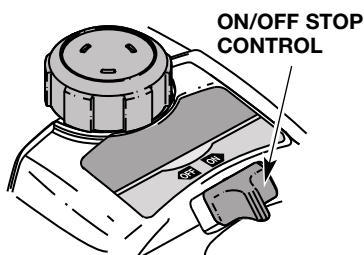
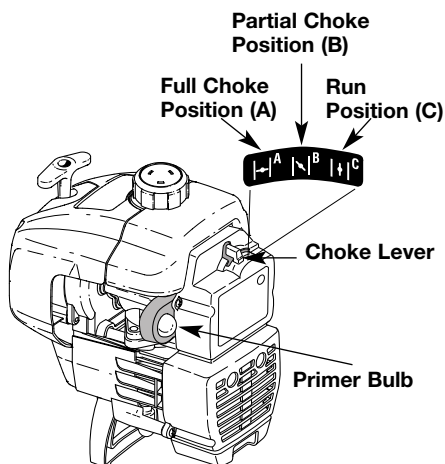

Fig. 9
Fig. 10
2. Put the On/Off Stop Control in the **ON** position (Fig. 9).
3. Fully press and release primer bulb 5 to 7 times. Fuel should be visible in the bulb (Fig. 10).
4. Place the choke lever in the **FULL** choke position (**A**) (Fig. 10).
6. Place the choke lever in the **PARTIAL** choke position (**B**) (Fig. 10).
9. Squeeze the throttle control to warm up engine for 5 to 10 seconds. Place the choke lever in the **RUN** position (**C**) (Fig. 10).
NOTE: Choking is unnecessary when starting a warm engine. Put the On/Off Stop Control in the **ON** position (Fig. 9), and start in **PARTIAL** Choke position (**B**) (Fig. 10).
2. Put the On/Off Stop Control in the **STOP** position (Fig. 9).